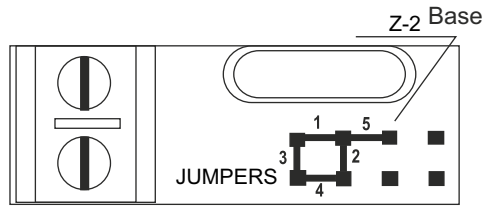
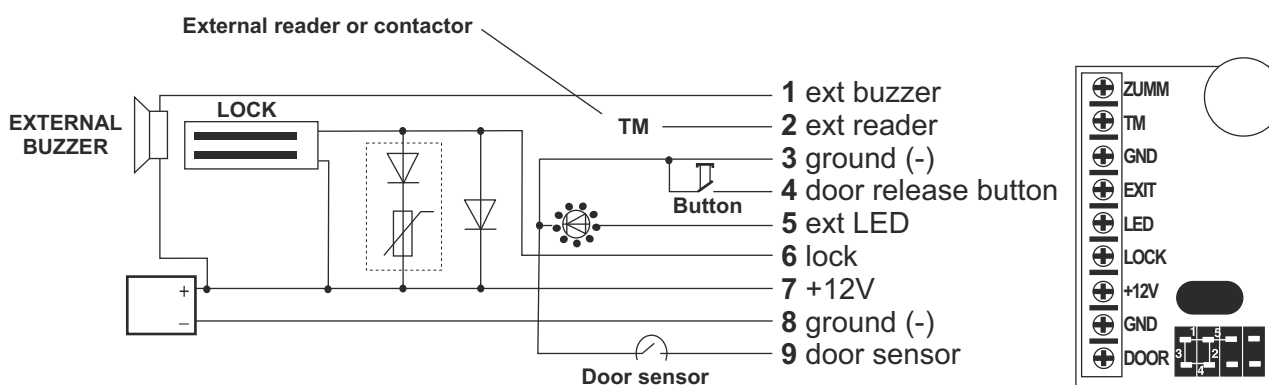

Figure 3. Jumper positions
Figure 6. Connecting external devices.
One jumper comes with each Z-5R controller for programming. There are five valid jumper positions (see Fig. 3).
Important: Electromagnetic lock is unlocked only after any current has ceased in its coil, and the door release delay depends on how quickly the current fades down. To diminish this dependency, the controller is provided with the current choking circuit, which converts "extraneous" energy in its coil to heat, thus significantly reducing the lock release time. However, this circuit has limited abilities and if the access traffic is above 25 in 5 minutes, it can get overheated. To protect the current choking circuit for such access points, install a shunt diode in parallel to the lock coil. This, in turn, can increase the opening time for the electromagnetic lock by 1...3 s, compared to working current choking circuit. If such increase cannot be tolerated, install a varistor in sequence with the diode, with voltage ≤ 14 V and energy dissipation ≥ 0.7 Joule (such as V8ZA2P, see Fig. 6).
- Install the protective diode (see Fig. 6). If the lock is electromechanical, please set the jumper to position 1. (See Fig. 3).